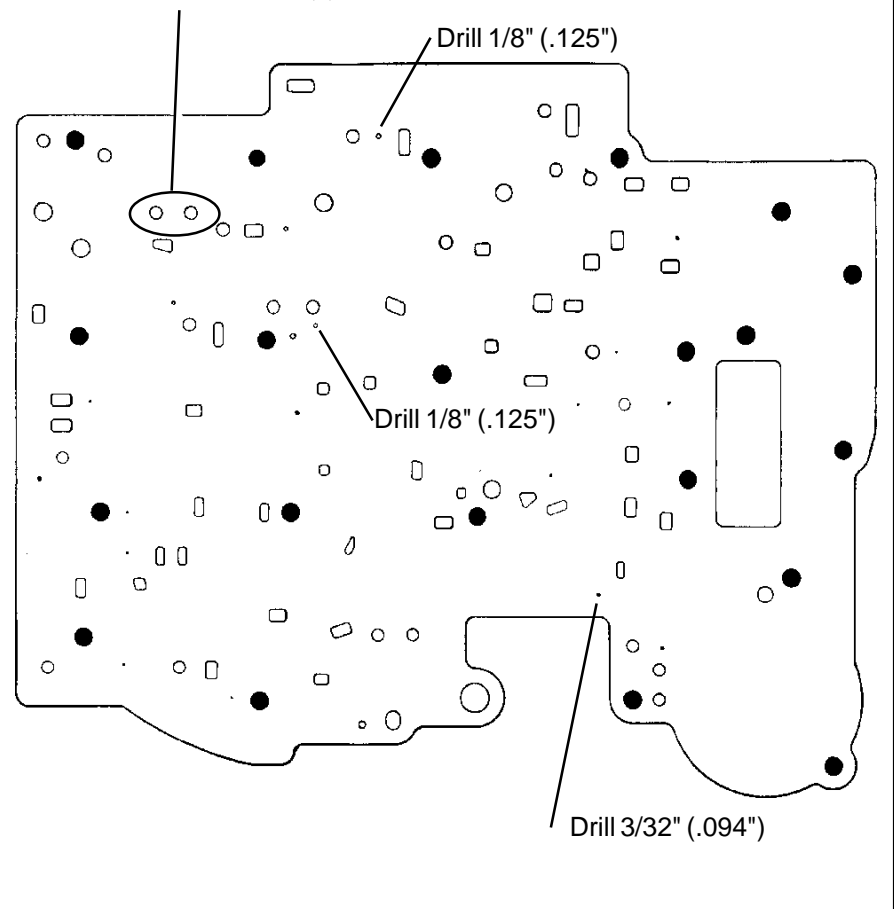

Figure 4
**STEP 6.** Using the supplied drills, enlarge the holes in your separator plate as indicated in **Fig. 4**. Carefully deburr the holes after drilling.
**STEP 11. Heavy Duty and Street; Check ball placement (See Fig. 4, 8, 8a, 8b and 8c.)** Place check balls in the valve body, auxiliary valve body and case in the positions shown. Use a dab of grease or petroleum jelly to hold check balls in position. Beginning mid 1984 model year TH-700's have a check ball which is larger than the others in the valve body position 'A'. If your transmission is equipped with this check ball replace it in position 'A'. If your transmission does not have this check ball then place **nothing** in position 'A', pre mid 1984 transmissions were not equipped with a check ball in this position.